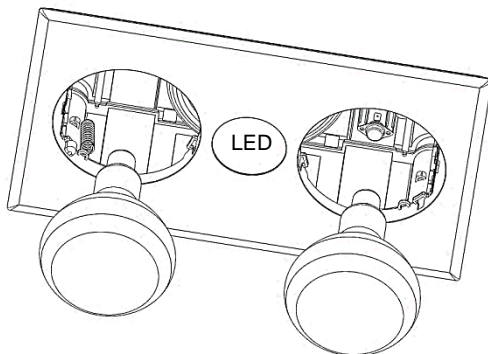

Fig.5
- 7) Screw the two large heat lamps into the E27 lampholders. Ensure connection is firm do not over tighten. (Fig.5)